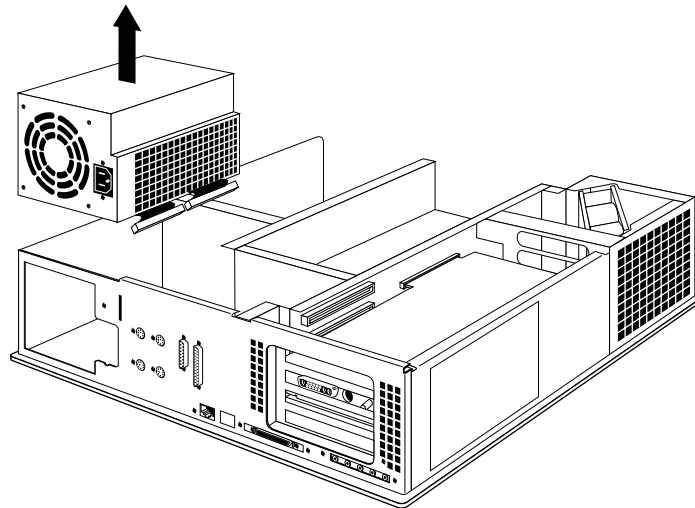

Figure 2-6 Removing the Power Supply From the Chassis
- Lift the power supply up and out of the chassis, as shown in Figure 2-6.